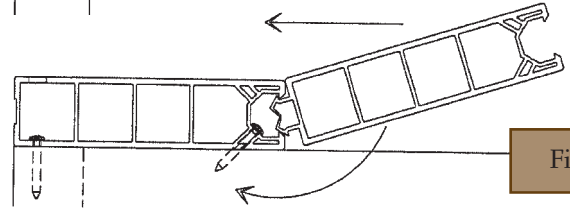

Fig. 3
Step 4 Cut next deck plank to desired length. Slide tongue under top lip and snap into place. (Fig. 3)